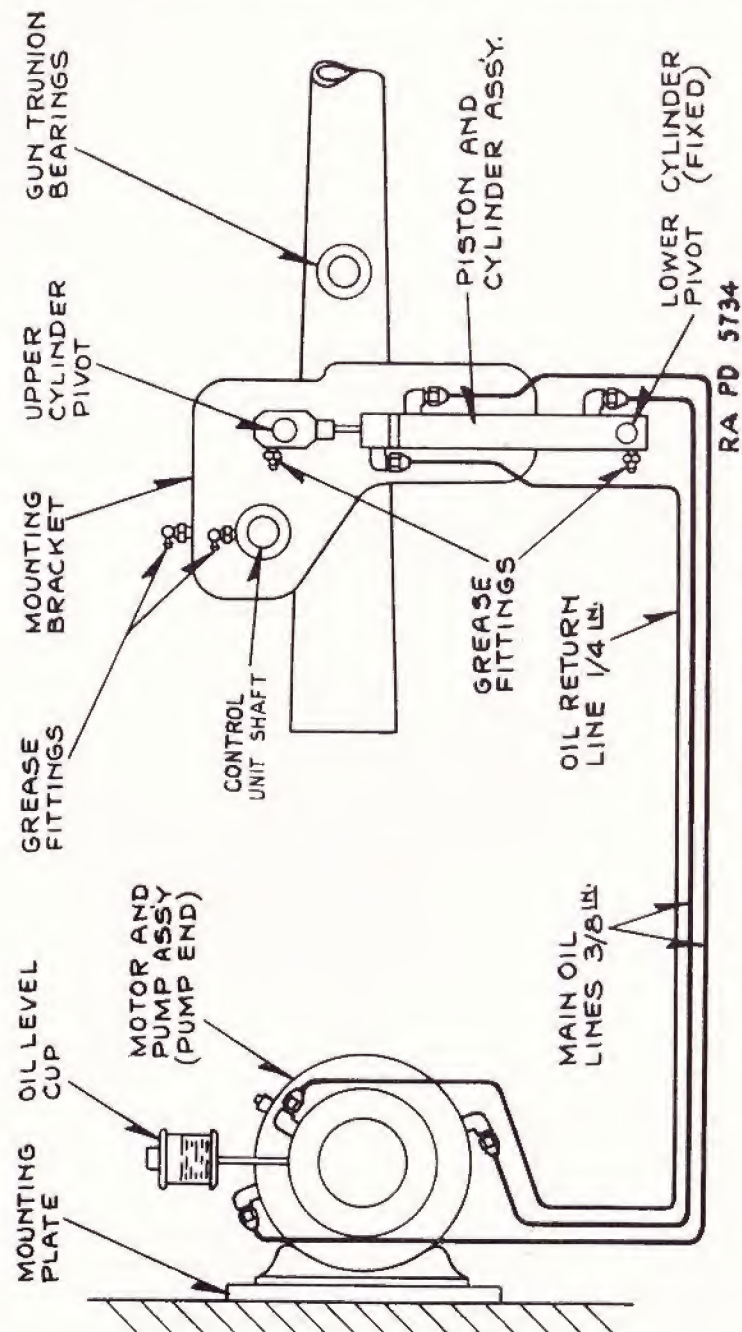

FIGURE 80.—Lubrication system.
(2) Check for free movement in the mounting of the piston and cylinder assembly.
(3) Tighten the packing gland on the oil pump shaft by removing the cover plate and turning the packing gland nut in a clockwise direction with a screw driver. Do not get it too tight.
(4) Lubricate the four alemite fittings shown in figure 80.
(5) Check all external electrical connections to see that they are tight.
(6) Check all oil line connections.
(7) Check for presence of air in the oil system.
(11) Reconnect all wiring by colors to the same connections from which the damaged ones were removed.
e. Replacing grease fittings.—(1) The grease fittings are of the alemite type and are located as follows (fig. 80):